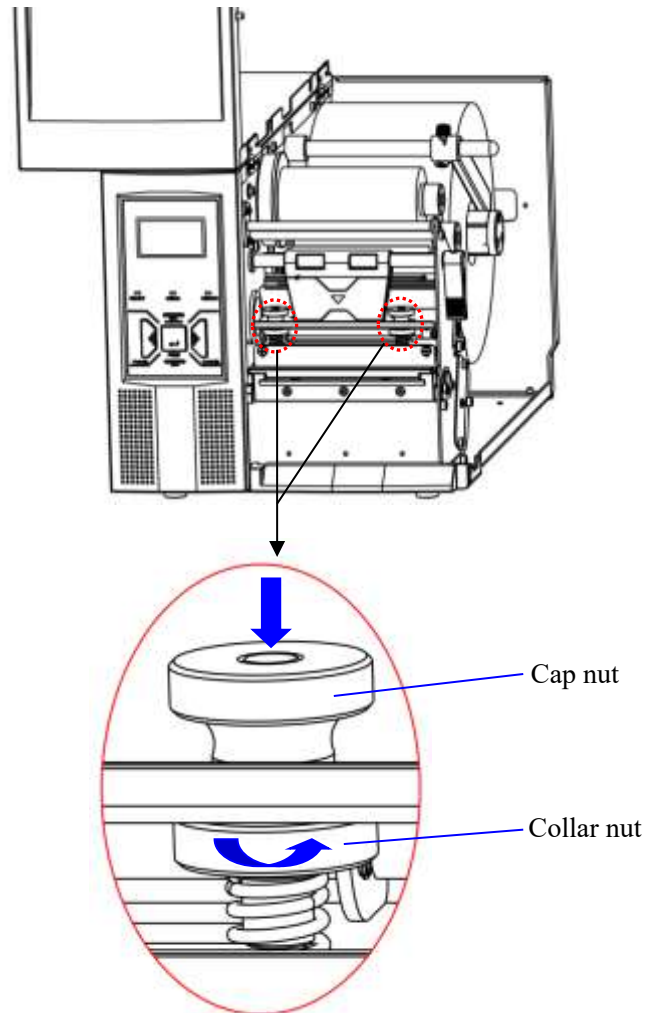

Figure 3-6
As shown in Figure 3-6, there are two set of nuts and screws for adjusting the pressure of Printhead.
2. Press down the cap nut, and then screw the collar nut to adjust the pressure for printhead; the pressure will be increased when the nut screws counterclockwise (as shown in figure 3-6), whereas the pressure will be decreased if it screws clockwise.